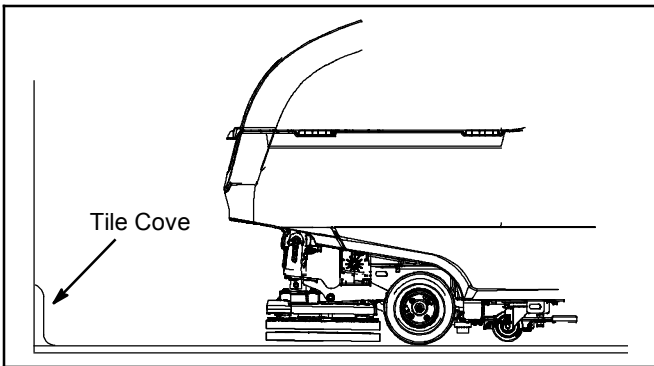

FIG. 42
8. Orbital Scrub Head Model - Use caution when working near the tile cove (Figure 42) and floor mounted fixtures such as pedestal sinks and other breakable items. Keep the metal scrub head edge away to avoid possible damage.